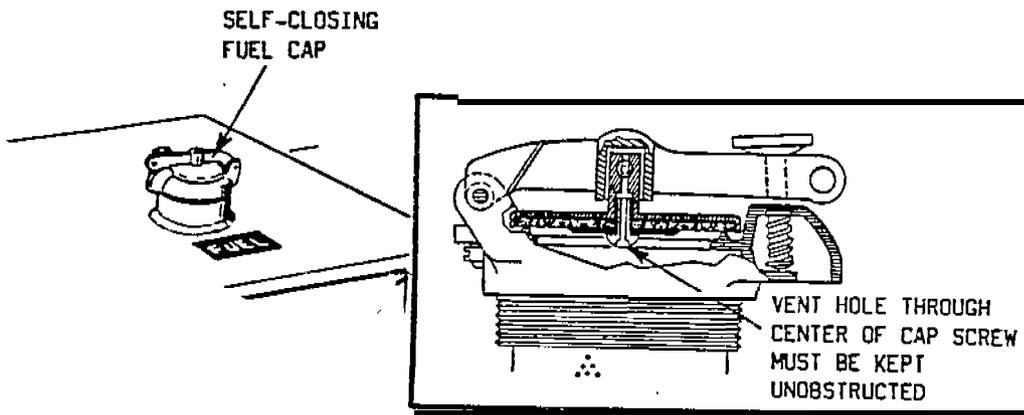

FIGURE 1
- (WEEKLY) 3. () The fuel cap is vented and self closing, and attached to the tank in a manner which will prevent loss during refueling. (Vent hole through center of "cap must be operable) [Figure 1.]*